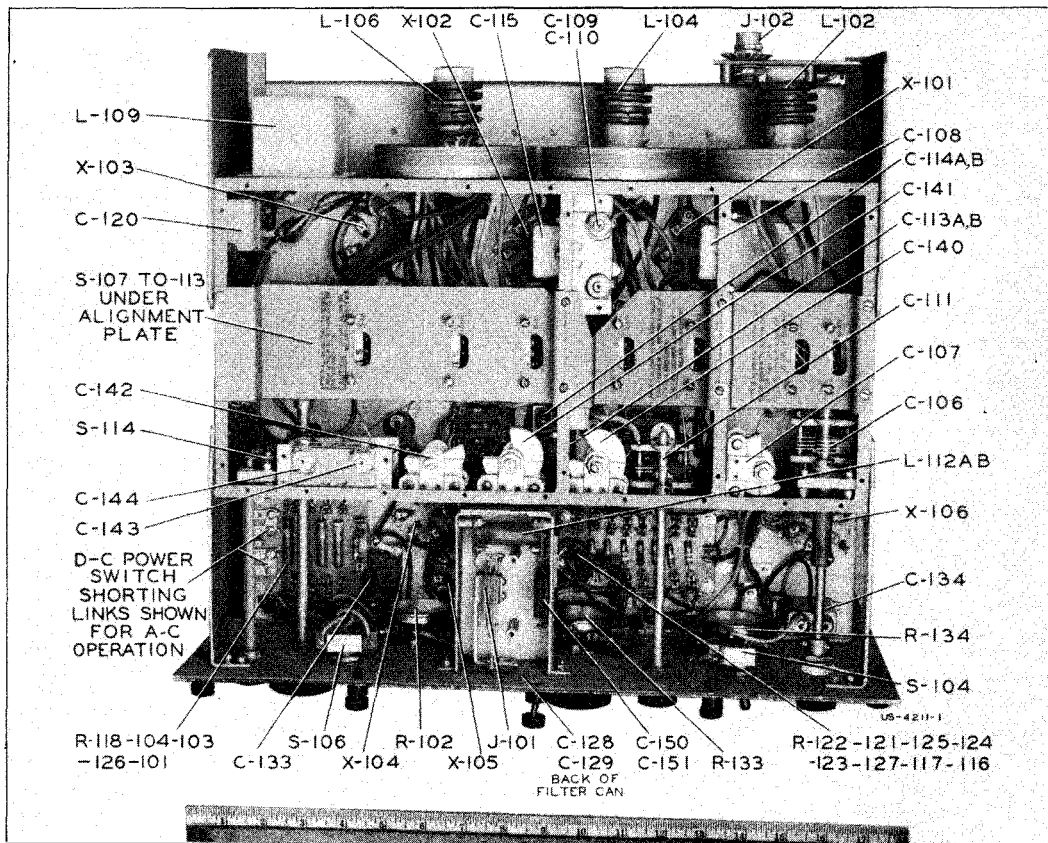

Figure 6—Receiver Unit CRV-46155 (Bottom View of Chassis—Covers Removed)
- 9.4-8 Normally, the a-c power is controlled either from the control unit or the power unit. In addition, a d-c power "On-Off" switch is provided on the receiver panel for use only in the event the receiver in an emergency is operated on batteries. *If this switch is opened when the receiver is normally operated on a.c., the load is removed from the power unit and overloading and damage of certain of its parts may result.* For this reason, shorting links are provided behind the panel (see Figure 6) which permanently close this switch circuit. If it is desired in an emergency to operate the receiver on batteries, these links should be opened.
- 9.7-2 A filter assembly connected to the output jack J101 and consisting of coils L112A and L112B and by-pass capacitors C150 and C151 eliminates signal pick-up on the phone leads. The shield around the phone jack prevents direct radiation from the jack itself. See Figure 6.
- 10.1-17 "D.C. POWER OFF-ON" Switch: This switch is not used in the normal operation of this equipment and is accordingly wired out of the circuit by short-circuiting links located under the chassis (see Figure 6).
NOTE: HOWEVER, SHOULD OCCASION ARISE, THIS EQUIPMENT MAY BE OPERATED FROM A BATTERY SUPPLY CONSISTING OF SUITABLE FILAMENT AND PLATE BATTERIES. THIS METHOD OF OPERATION WILL REQUIRE OPENING OF THE SHORT-CIRCUITING LINKS (SEE FIGURES 6 AND 19) AND CONNECTION OF CABLE W-201, AS INDICATED BY THE DOTTED LINES IN FIGURE 15. OPERATION OF THE RECEIVER WILL THEN BE CONTROLLED BY THE "DC POWER" SWITCH ON THE FRONT PANEL.